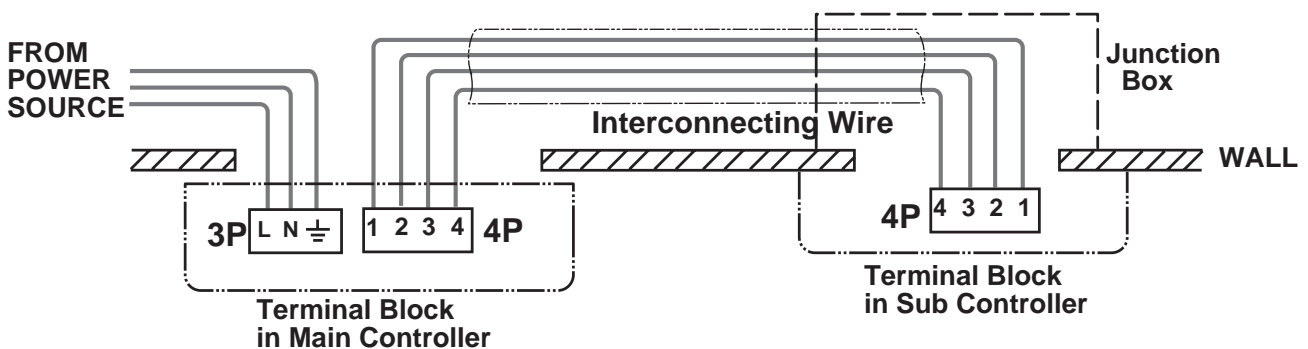

Fig.2-2 Concealed Wiring
B. Concealed wiring for RK,FK2 (Fig.2-2)